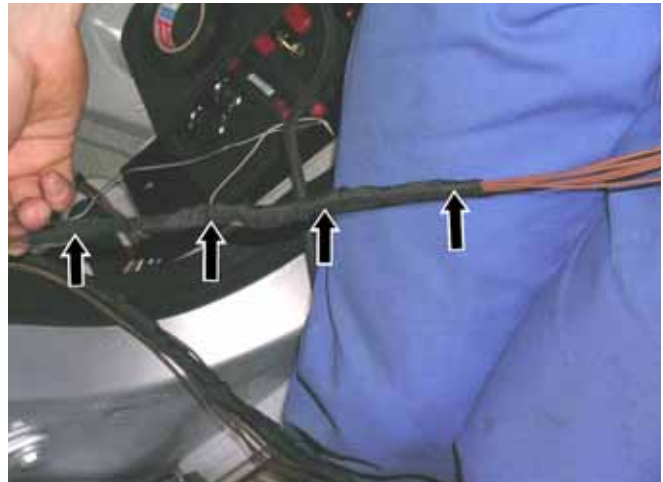

Figure 8
- Secure the individual wires of each wiring harness together with fabric tape (arrows, Figure 8).